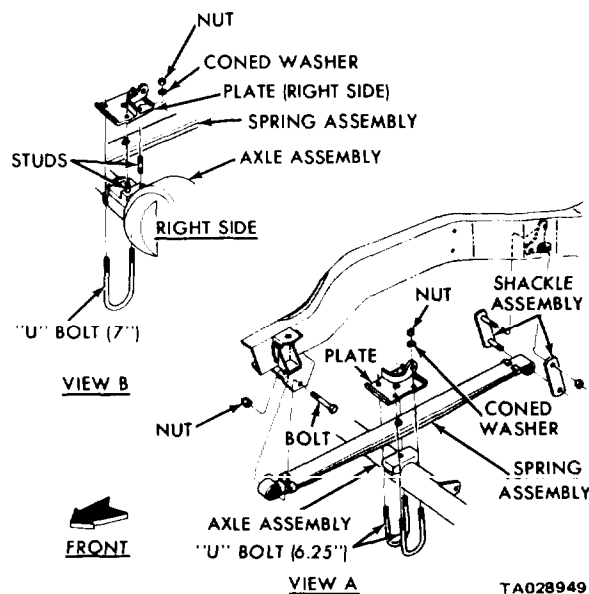

Figure 7-10. Front Suspension (4X4 Models).
a. *Removal.* Refer to figure 7-10.
(1) Using a lifting hoist hooked to the towing eyes or to the frame attachment, raise the truck. Install jack stands.
(2) Remove the "U" bolts securing the spring to the axle.
(3) Remove the spring shackle bolts, shackles, and the spring front eye bolt. Remove the spring.
b. *Installation.* Refer to figure 7-10.